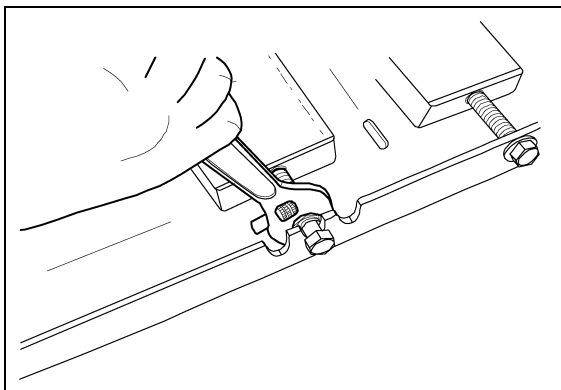
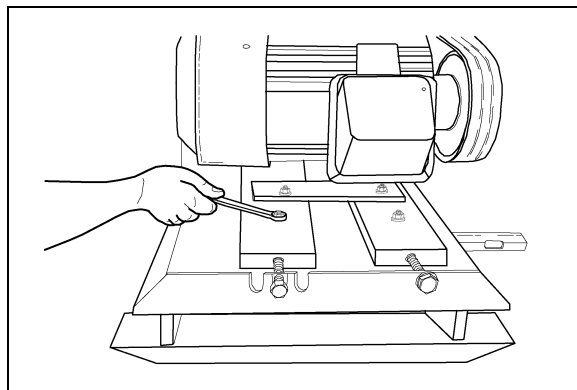

Figure 4J
Figure 4K
6. Keeping the motor in proper alignment is necessary and can be accomplished by using an open end wrench to turn the nut on the opposite motor mount channel, moving the channel either direction until proper alignment is achieved. Squaring up the motor can change the tension of the belts. Recheck alignment and tension. Finish Step 4 by tightening the four  $\frac{1}{2}$ " bolts left loose earlier. (See Figure 4J and Figure 4K).